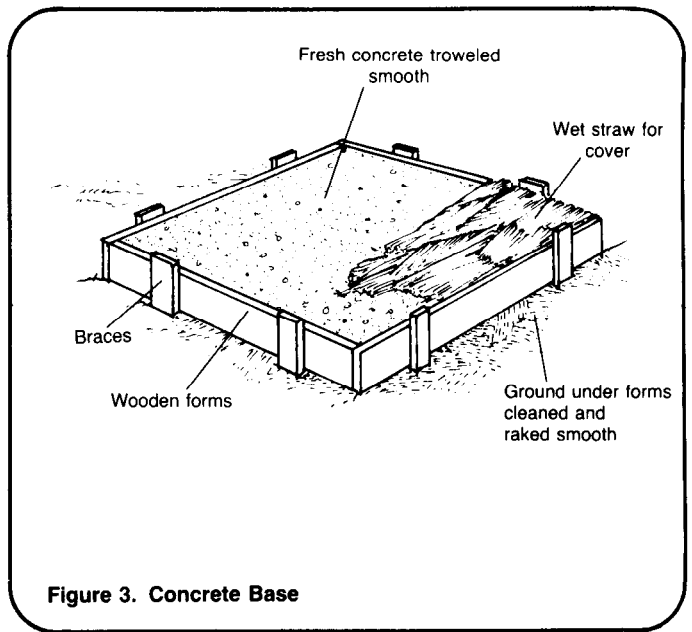

Figure 3. Concrete Base
4. Pour in concrete until the base form is about half full, lay in reinforcing material such as steel rods, wire mesh, or bamboo strips, and pour in concrete until the form is full. Smooth the surface with a trowel as shown in Figure 3.